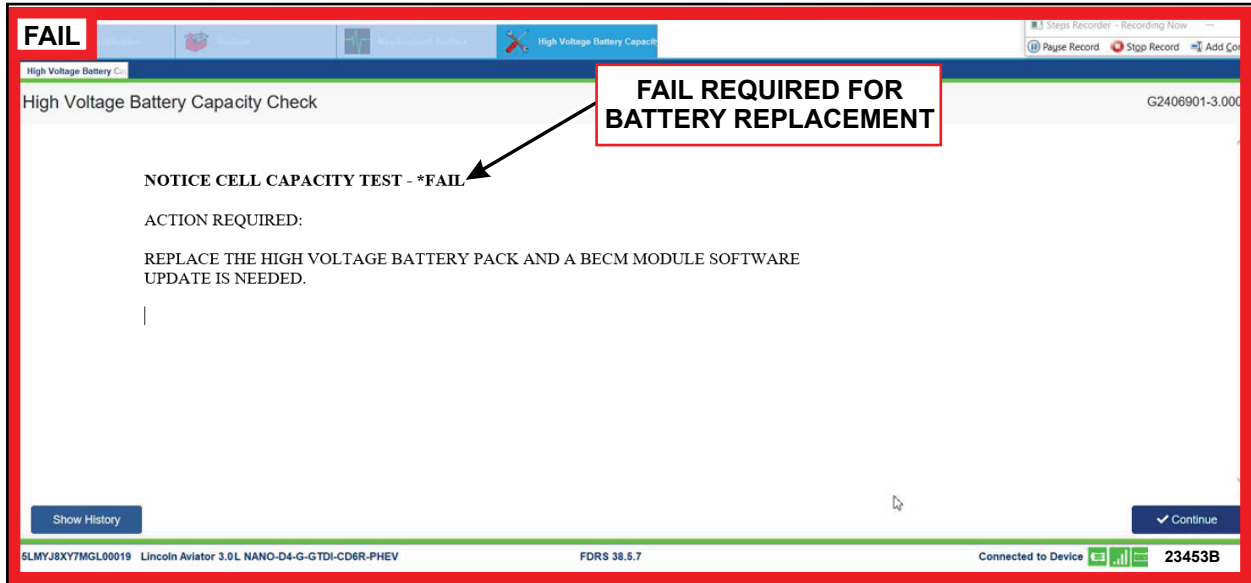

FIGURE 2
13. Did the high voltage battery capacity check FAIL or PASS? See Figures 2 and 3.